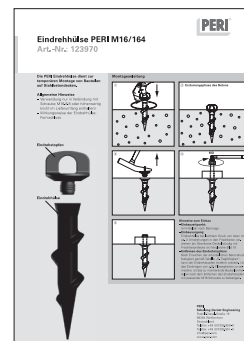

Fig. A2.12
- Alternatively, it is also possible to use a PERI Screw-On Sleeve M16/164, ISO 4017 M16 x 130-8.8 bolt and ISO 7094 100 HV, A16 washer for installation. For installation of the Screw-On Sleeve PERI M16/164, see data sheet. (Fig. A2.12)